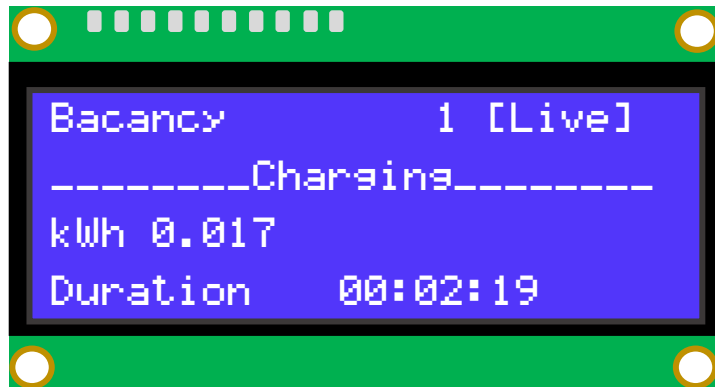

Figure 6 Energy Consumption and Time Duration in Charging Mode.
c. Once RFID is successfully authenticated, the screen will display the status "charging." (Figure 6)